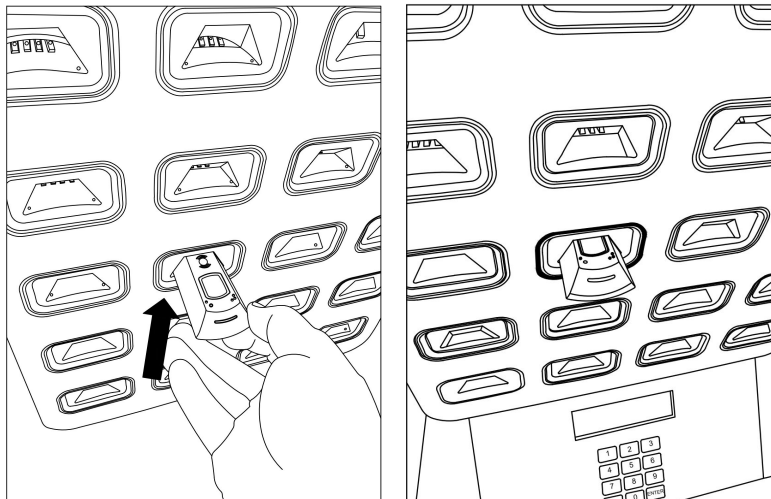

Figure 10
3. Insert the wearable device into any open base station bay. If the device needs to be charged, a red light will light up on the device shortly after it is inserted. When the device has enough charge, a red light will flash around the bay. (Figure 10)